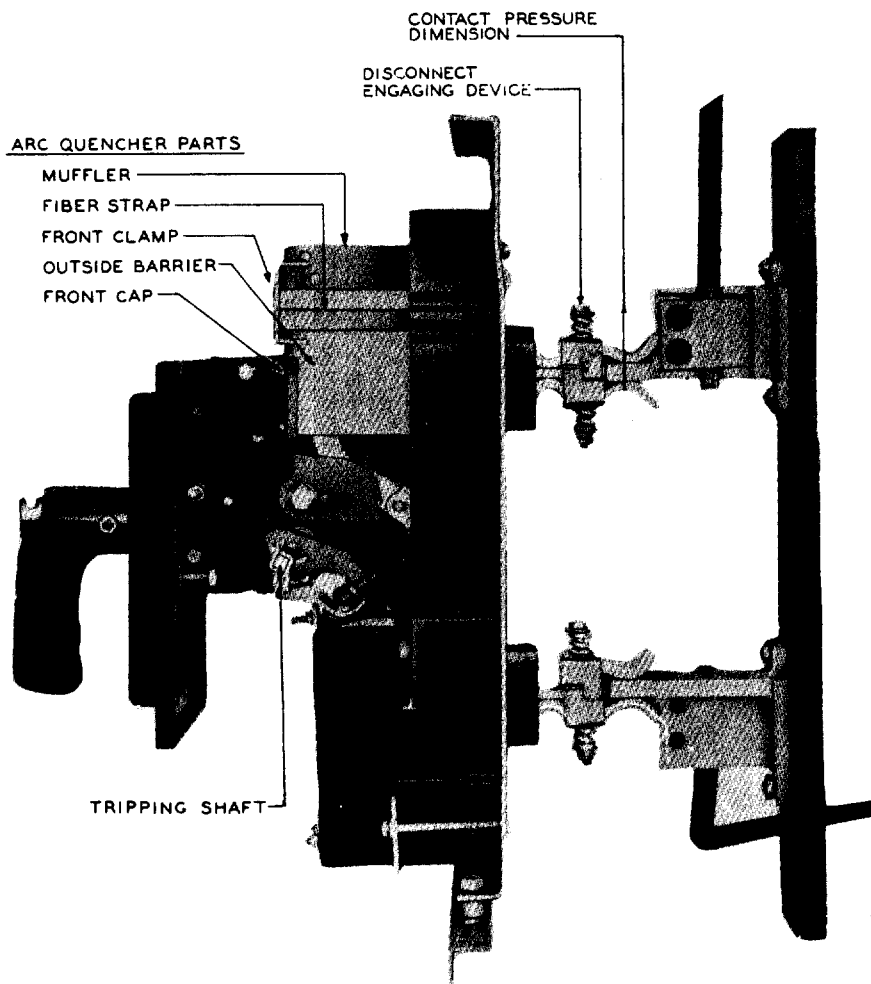

Fig. 2 – Side View of Breaker Showing Disconnect-devices Engaged
**\*#2.03 Disconnect Engaging Device:** See Fig. 2—
**2.09 Solderless Connectors:** See Fig. 2 — The solderless connectors should be retightened periodically until no further take-up can be obtained.
(1) These devices are located on the rear of the breaker. It will be necessary to remove the breaker from its case to obtain access to them. See 3.02 and Fig. 2.
(2) The contact pressure of these devices is adjusted at the factory, but if changed, readjust by holding the top bolt with an adjustable wrench and adjusting the nuts at the bottom of the bolt with a 7/16-inch open-end wrench to bring the dimension between washers within the requirement. Tighten the locknut when adjusted.